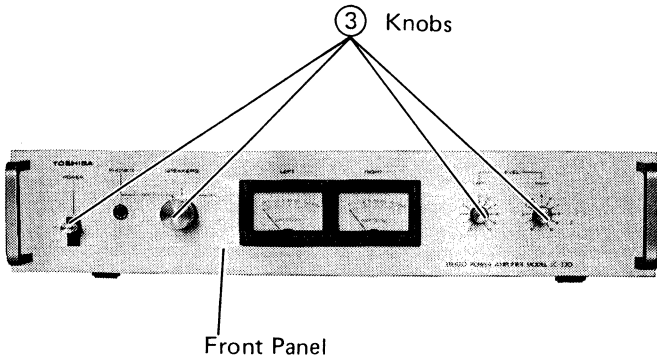

Figure 6
1. Pull out the four knobs ③. See figure 6.